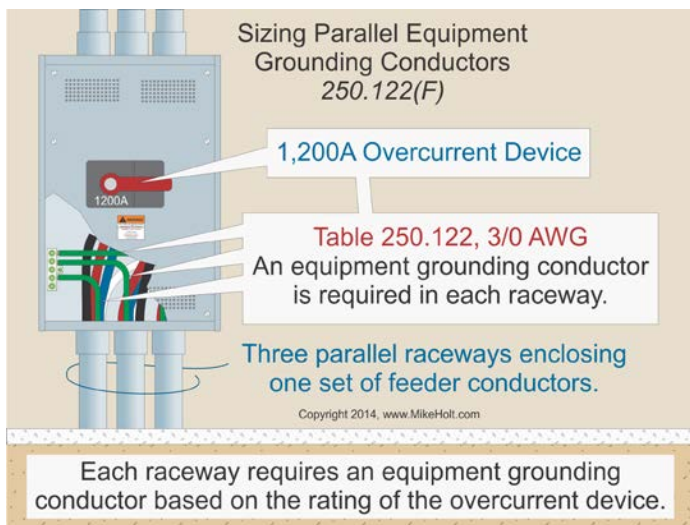

Figure 250-213
(F) Parallel Runs. If circuit conductors are installed in parallel in separate raceways or cable as permitted by 310.10(H), an equipment grounding conductor must be installed for each parallel conductor set. The equipment grounding conductor in each raceway or cable must be sized in accordance with Table 250.122, based on the rating of the circuit overcurrent device, but it's not required to be larger than the circuit conductors [250.122(A)]. Figure 250-213